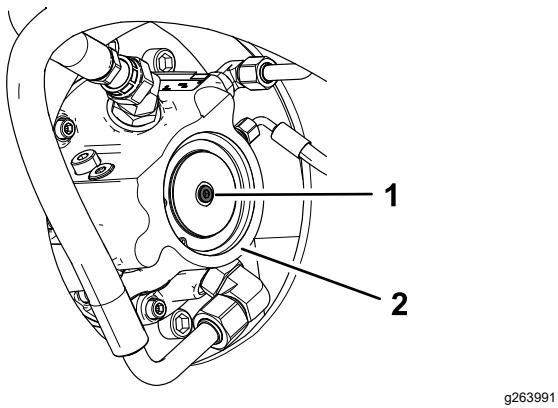

Figure 26
3. For each drive motor, remove the plug and install a screw (M8-1.25 x 40 mm) and washer (M8 x 16 mm) in its place (Figure 26). Hand-tighten the hardware.